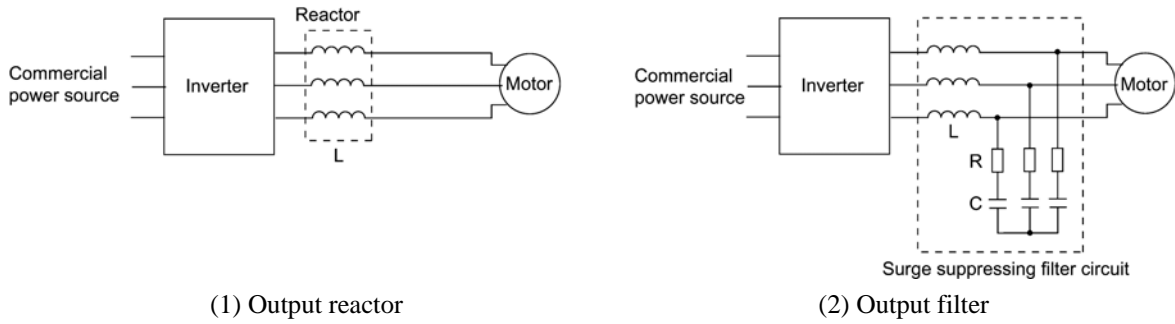

Figure C.3 Method to Suppress Surge Voltage
If wiring length is relatively short the surge voltages can be suppressed by reducing the voltage rise time (dv/dt) with the installation of an AC reactor on the output side of the inverter. (Refer to Figure C.3 (1).)
Installing a filter on the output side of the inverter allows a peak value of the motor terminal voltage to be reduced. (Refer to Figure C.3 (2).)